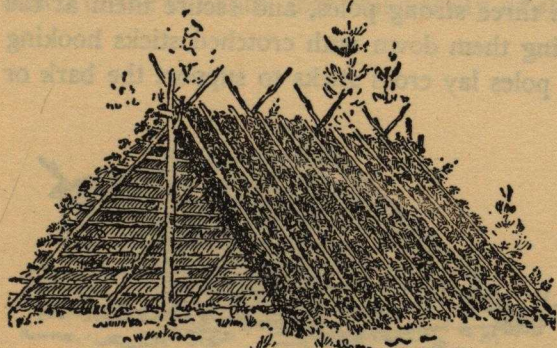

FIG. 54.
*The Brush Camp Improved.*—Place two strong crotched sticks in the ground about eight feet apart and some six feet high, with a stout ridge-pole in the crotch. Now place stiff, straight poles from the ridge-pole to the ground making a V-shaped frame (Fig. 54). These poles need to be about eight inches apart. Thatch on them with boughs of hemlock or cedar laid with the face or feather ends down, beginning at the bottom and working up to the ridge. If these boughs are laid about ten inches in thickness and weighted down with poles on top to keep them from blowing away, you will have a very nearly water-tight shelter.